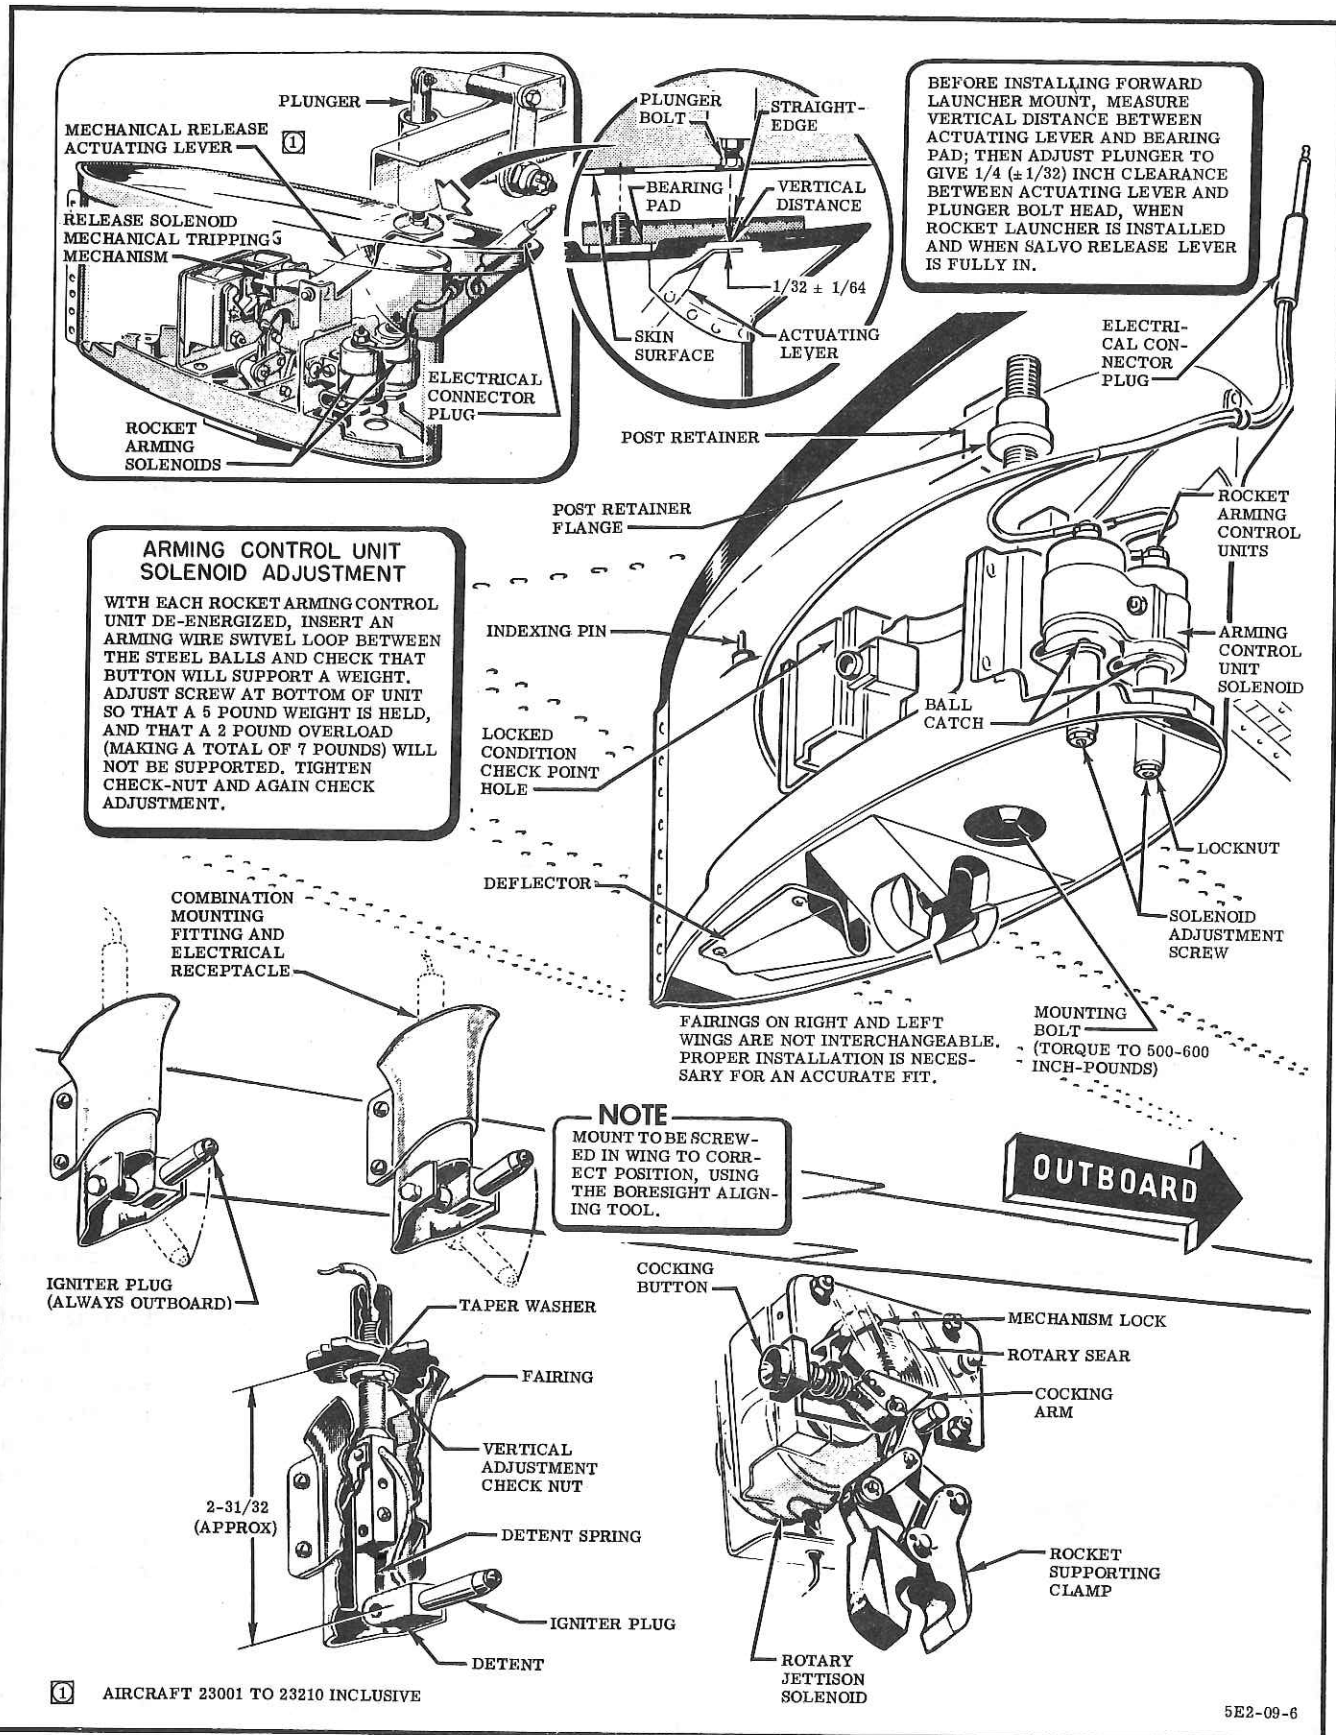

Figure 9-8 Rocket Launchers
of the nose fuse through the arming control units within the front rocket mounts (see Figure 9-8). When the switch is set at INSTANT, the arming control solenoids at each rocket station are energized simultaneously. This locks the pin in the arming unit, so that the catch retains the rocket arming wire when the rocket is released, thereby arming the nose fuse. The arming control unit solenoid is not energized when the arming switch is at DELAY, leaving the ball catch unlocked. Upon release, the rocket pulls the arming wire from the ball catch so that the nose fuse is unarmed. The arming circuit is de-energized when the bomb-rocket jettison (salvo) switch is pressed or the rocket jettison switch on the armament panel is in the READY position. The arming solenoids will allow the arming wires to drop when the arming circuit is cut off after rockets have been fired in a nose-armed condition. The internal fuse is armed only by rocket fire. It will not be armed when the rocket is released by the salvo or jettison switches. Arming control adjustment details are shown in Figure 9-8. For arming operation check, refer to Paragraph 15, following.
9 Each of the removable rocket launcher assemblies consists of two aft mounts and a single forward mount. (See Figure 9-8.) The aft mounts, which incorporate the rocket igniter plug, have electrical connections within the mount post that make contact with an electrical receptacle in the wing when the mount is installed. The forward mount houses the rocket jettison unit and two arming solenoids. The rocket jettison unit consists mainly of a rotary solenoid, a rotary sear, a lock and a supporting clamp. The supporting clamp is held closed by the lock, which engages a shoulder on the rotary sear. Whenever the rotary solenoid is energized during salvo or jettison release, it rotates, lifting the lock from engagement with the sear. This permits weight of rocket, in conjunction with a booster spring, to open the supporting clamp, causing rocket to be released. Once the mechanism has been tripped, it is reset by pressing the cocking button on the right side of the front rocket launcher. This action manually rotates the rotary sear until the lock is engaged. The cocked condition of the front mount can be checked by insertion of a rocket shear wire into the hole in the mount fairing just aft of the cocking button. If the full length of the wire cannot be inserted, the mechanism is not locked. The two arming solenoids in each forward rocket mount accomplish rocket nose fuse arming. The rocket launchers have no provisions for azimuth adjustments. The aft mounts can be adjusted vertically for bore-sighting.
13 Before the aft rocket launcher assembly is installed, the mounting holes in the wings should be inspected and any foreign matter in the holes should be removed. All aft rocket mount assemblies are identical, with the exception of the fairing and the arrangement of the igniter plug and spacer. There are right and left fairings to provide for the difference in right and left wing contours. The igniter plug and spacer should be arranged so that the igniter plug is outboard and the spacer inboard with respect to the centre-line of the aircraft. (See Figure 9-8.) The launcher assembly should be inspected for proper condition. Install as follows:
- (c) Insert the rocket launcher into the socket in lower surface of wing. Turn launcher until the igniter plug is facing forward and is 2-31/32 inches from the wing skin, as shown in Figure 9-8.
15 To check the arming control units, proceed as follows: (See Figure 9-8.)